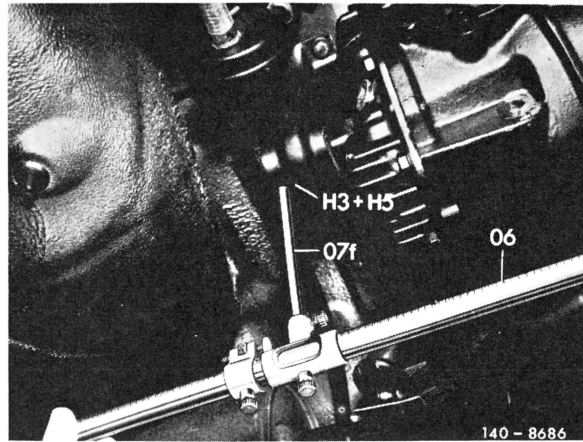

Fig. 20
10 Measure distance "H5" from locating bore "FH" to hex. screw of front bearing on frame floor left and right with beam compass, measuring length 1,500 mm (06) and measuring bolt with cup, length 77 mm (07g), as well as measuring bolt with tip, length 163 mm (07f) (Fig. 20 to 23).